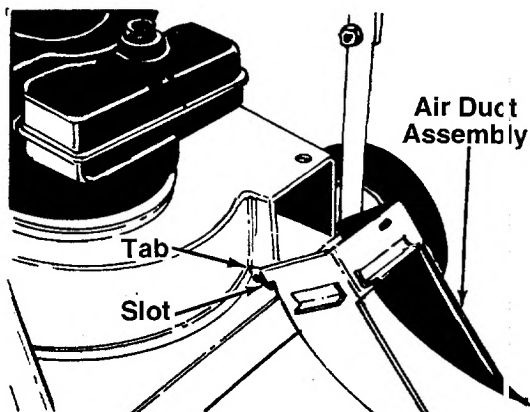

FIGURE 6.
1. Place the tabs on the air duct assembly into the slots in the frame as shown in figure 6. Raise the air duct into position.